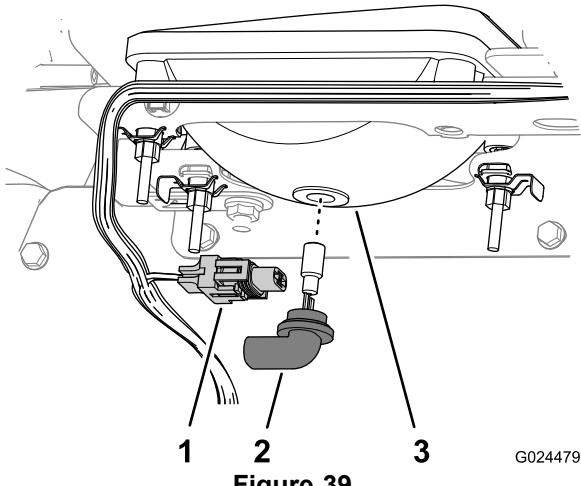

Figure 39
3. Disconnect the electrical connector for the harness from the connector of the lamp assembly at the back of the headlight housing (Figure 39).
4. Rotate the lamp assembly 1/4 turn counterclockwise and moving it rearward, out of the headlight housing (Figure 39).
5. Insert the new lamp assembly and headlight housing and align the tabs in the lamp assembly with the slots in the headlight housing (Figure 39).
6. Secure lamp assembly by turning it 1/4 turn clockwise (Figure 39).
7. Connect the electrical connector for the harness to the connector of the new lamp assembly (Figure 39).